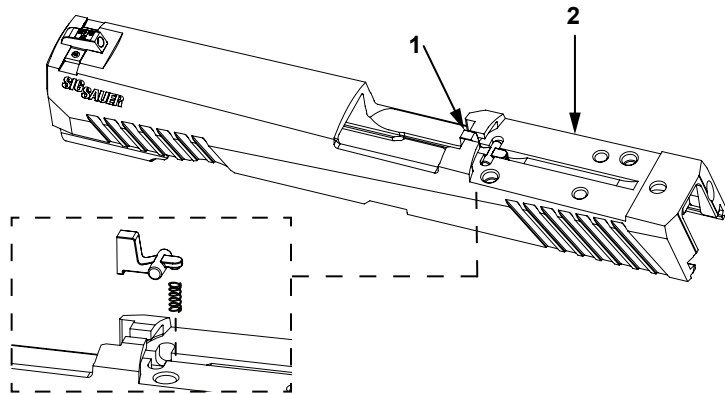

Figure 9. Inspect Slide
- Ensure loaded chamber indicator (LCI) (Figure 9, Item 1) is properly installed in slide. Clean sight mounting surface of slide (Figure 9, Item 2).